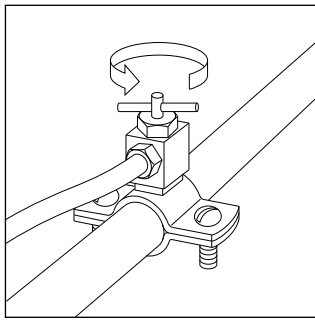

Fig. 4—Saddle Valve
1. Open the saddle valve on the water supply line. (See Fig. 4.) Set humidistat to the desired relative humidity. (See Fig. 5 and Table 2.)
2. Turn off the humidifier's water supply. (See Fig. 4.)